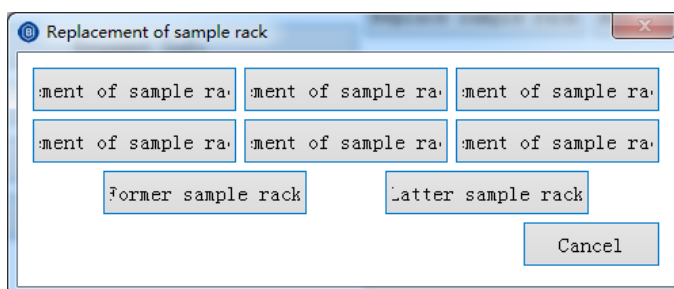

Figure. 8.8.3 Replacing the sample racks
- Click **Start** and click **Replace sample rack** in the pop-up window, as shown in Figure 8.8.3.